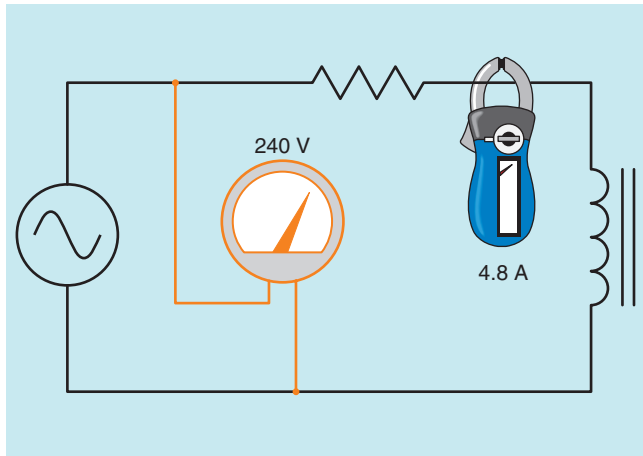

FIGURE 13-22 Apparent power is the product of measured values (240 V × 4.8 A = 1152 VA).
Volt-amperes (VA) is the apparent power of the circuit. It can be computed in a similar manner as watts or VARs, except that total values of voltage and current are used. It is called **apparent power** (VA) because it is the value found if a voltmeter and ammeter are used to measure the circuit voltage and current and these measured values are multiplied together (Fig. 13-22). In this example, the formula used is